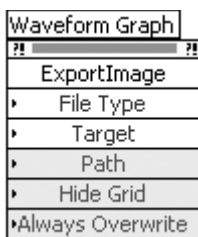

Figure 13.41
2. From the block diagram, right-click on **Waveform Graph** and select **Create>>Invoke Node>> ExportImage**. You should see an invoke node like the one in Figure 13.41.